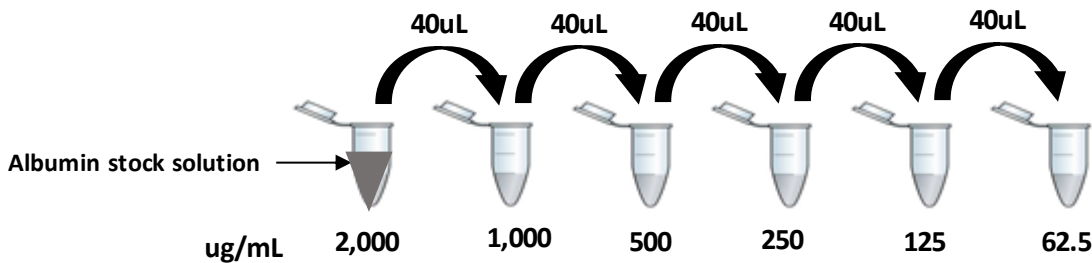

Fig. 2
7. Continue with the serial dilutions until you have completed the dilution labeled 62.5 $\mu\text{g/mL}$. See Fig. 2.